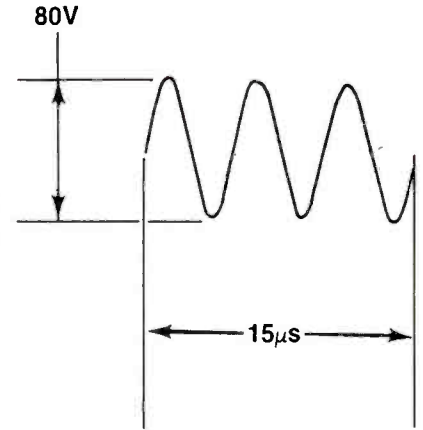

Figure 3
- What is the frequency of the waveform in Figure 3?
- What is the RMS value of the sine wave voltage in Figure 3?